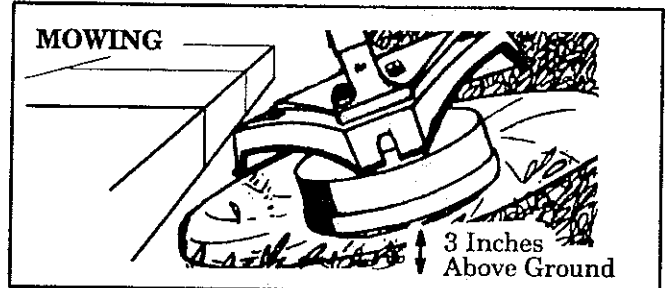

Figure 15
1. **TRIMMING – Figure 15 .** Hold the bottom of the trimmer head about 3 inches above the ground and at an angle. Allow only the tip of the line to make contact. Do not force the trimmer line into the work area.